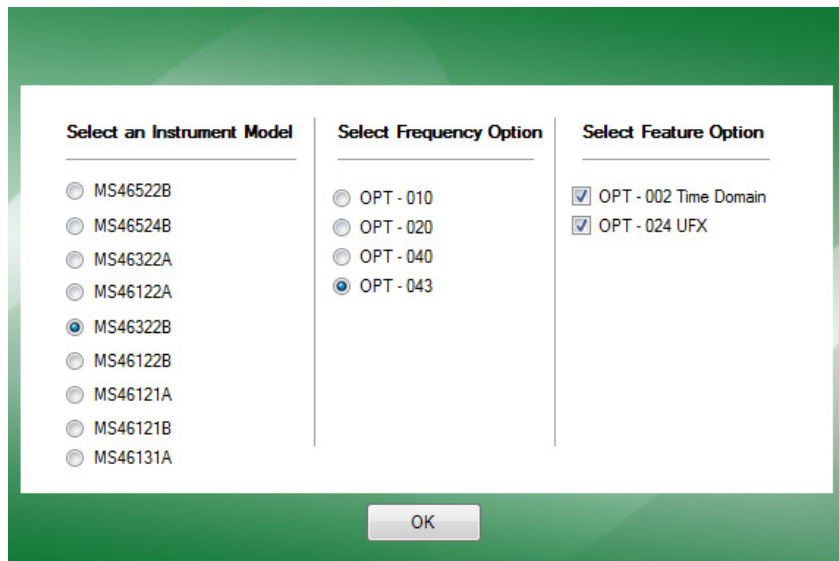

Figure 3-8. Simulator Select Instrument
- Once Simulation Mode is selected, the default menu screen appears. See Figure 3-8.